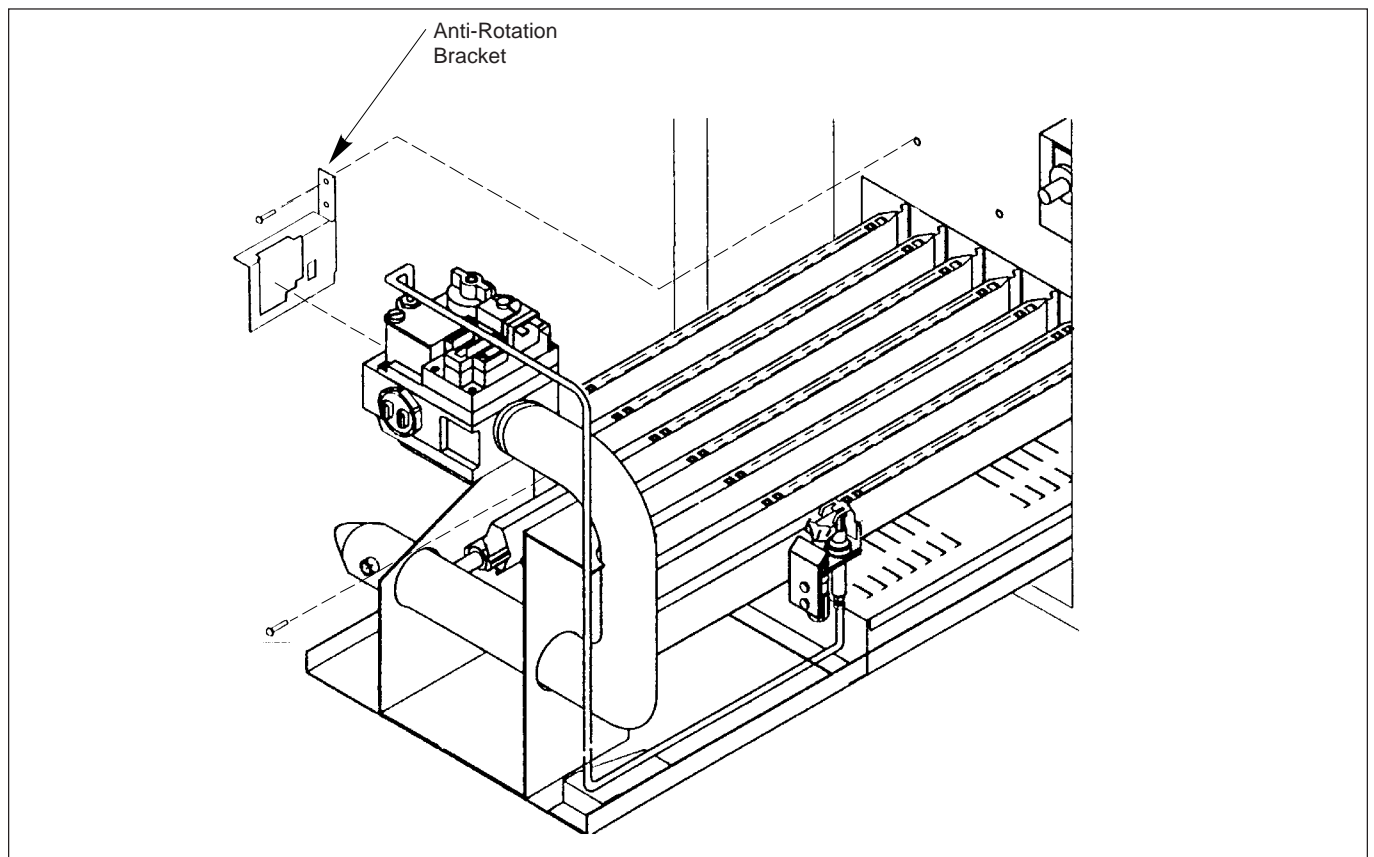

Figure 29. Gas valve/burner replacement.
5. Disconnect the service union in the gas line, and unscrew the main gas pipe from the gas valve (see Figure 29).
6. Remove the two screws that fastens the anti-rotation bracket on the left side of the gas valve (see Figure 29).
9. Pull the burner tray out of the heater (see Figure 29).
16. Install the anti-rotation bracket to the inner panel and fasten with two screws (see Figure 29).
18. Connect the service union in the gas line, and screw the main gas pipe to the gas valve (see Figure 29).